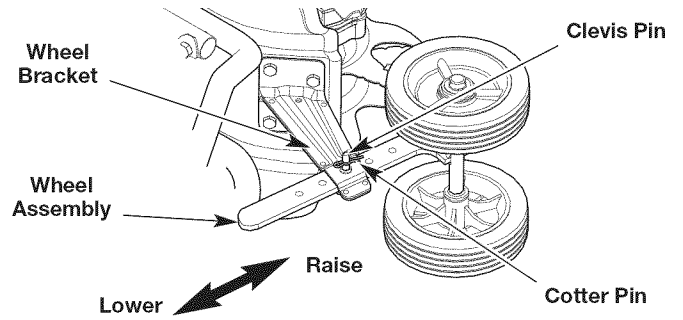

Fig. 1
1. Set the unit on its side (Fig. 1).
2. Insert the wheel assembly into the wheel bracket. The curved “J” section should point away from the unit (Fig. 1).
4. Insert the clevis pin through the aligned holes (Fig. 1).
5. Insert the cotter pin through the hole in the clevis pin (Fig. 1).
2. Remove the cotter pin from the clevis pin (Fig. 1).
3. Remove the clevis pin from the wheel assembly and wheel bracket (Fig. 1).
5. Insert the clevis pin through the aligned holes (Fig. 1).
6. Insert the cotter pin through the hole in the clevis pin (Fig. 1).